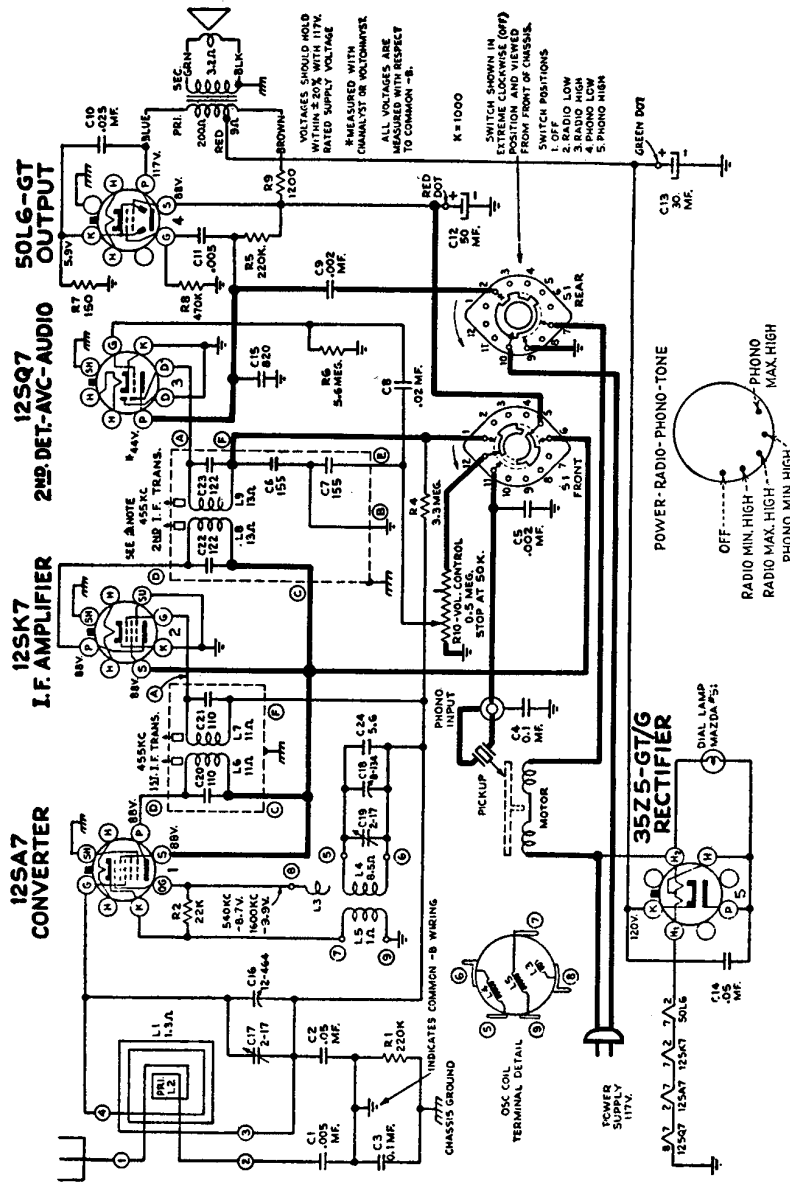
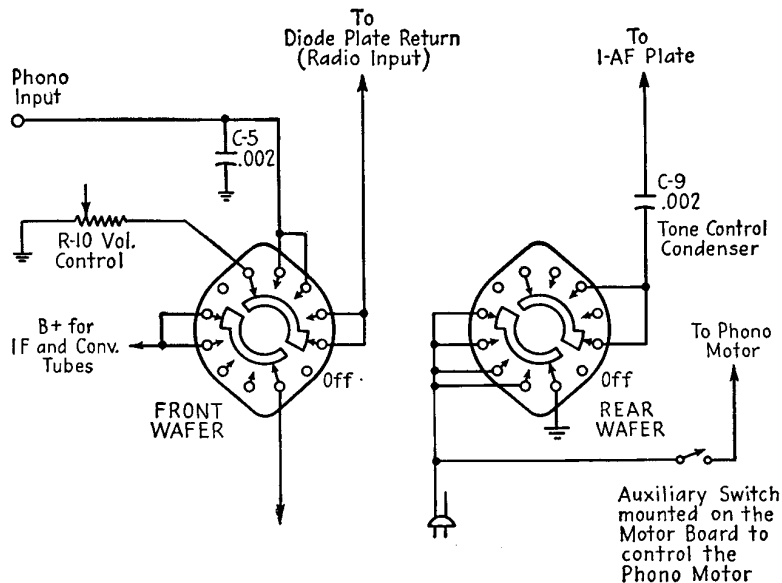

Fig. 12-17.—RCA Victor 55U radio-phonograph combination. The radio-phonograph switching is shown in heavy lines.
FIG. 12-23.—Alternate radio-phonograph switching circuit for the receiver of Fig. 12-17.
The radio-phonograph combination of Fig. 12-17 combines the on-off switch, the phonograph-motor switch, and the tone control with the radio-phonograph switch. The switch used is of the 5-point, 2-gang wafer type. The front-panel view of the switch is shown below the wafers in the schematic diagram. The operation of the switch can be analyzed by a study of the diagram and the following table.
When an original replacement switch is unobtainable, the serviceman must exercise his ingenuity to perform the operations of the original radio-phonograph switch with whatever standard switch is available and will fit the space requirement. For an extreme example, assume a defective radio-phonograph switch in the receiver of Fig. 12-17 and that an original replacement is unobtainable. A two-deck, four-arm, five-position switch could be substituted in accordance with the diagram of Fig. 12-23.
6. The receiver of Fig. 12-7 has a defective phonograph-radio switch. An exact replacement is not obtainable. The customer indicates a desire to have the phonograph motor operated from the phonograph-radio switch and, since he always uses his radio in the position of maximum high, he is not interested in the tone control. Redraw the diagram of Fig. 12-23 to meet these conditions.